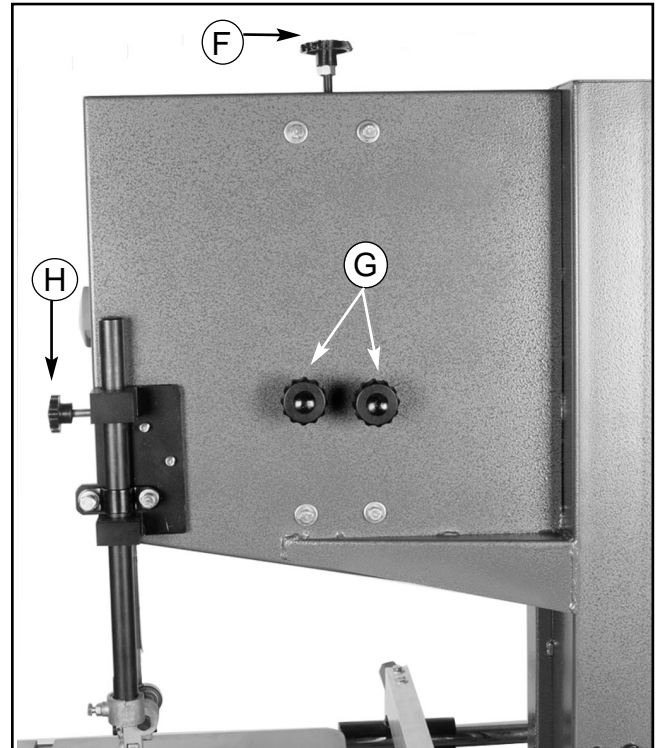

Figure 9. Upper Controls.
Now, direct your attention to the controls located around the upper part of the saw. See **Figure 9**.
Proper blade tension and tracking are important for optimum bandsaw performance. **See Figure 9** for bandsaw tension and tracking control locations.
1. Loosen tension on the blade by turning the tension control knob counter-clockwise when facing the front of the saw. **See Figure 9.**